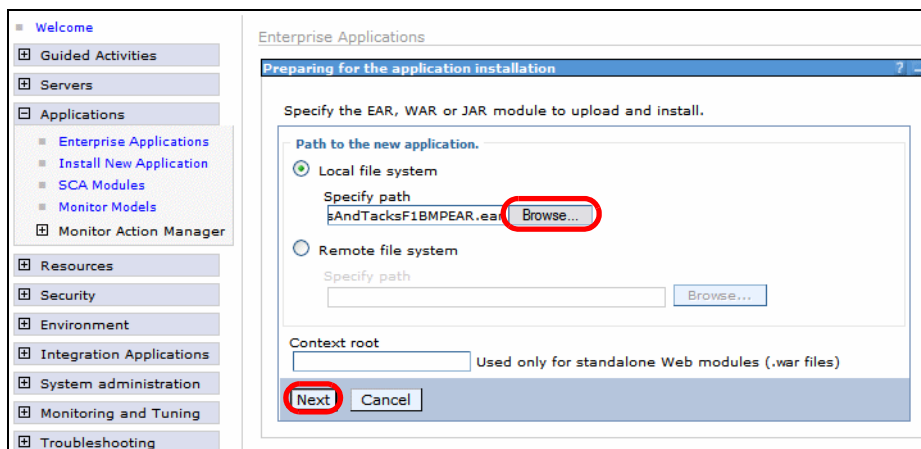

Figure 14-2 Installation of monitor model EAR file
- ▶ Click *Browse* and select the monitor model EAR file exported in “Deploying the monitor model to the unit test environment” on page 384. Click *Next* (Figure 14-2).